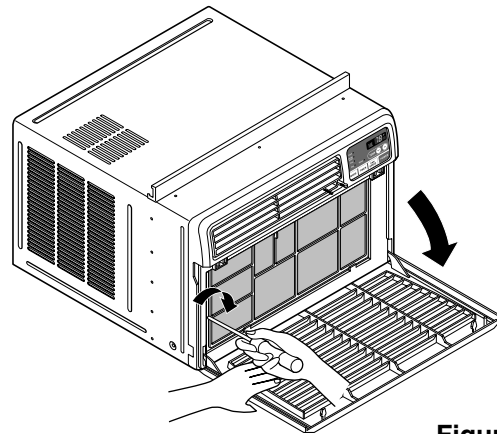

Figure 13
2. Remove the screw that fastens the front grille.(See Figure 13)